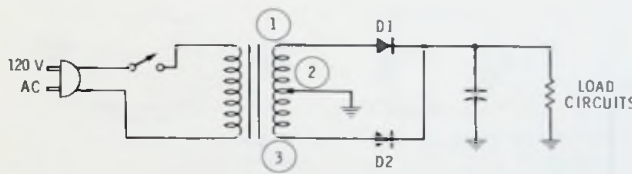

Fig. 3-23. Center-tapped transformer fed full-wave supply.
When a transformer winding is center tapped, half the output voltage will appear between the center tap and each end of the secondary winding. The total output voltage will appear between the two outside (end) leads. As shown in Fig. 3-23 if the top lead is positive the center tap will be more negative than the top lead. It will at the same time be more positive than the bottom lead which will be negative at this time. It is this fact which allows the transformer powered full-wave rectifier to operate with only two diodes.
A center-tapped transformer-fed, full-wave rectifier circuit is illustrated in Fig. 3-23. The center tap is grounded and *it becomes the negative lead of the power supply*. When transformer line 1 becomes positive, line 3 is negative. Line 2 is more negative than line 1 and more positive than line 3. Because of the direction of placement of D2 the negative line (3) will have no current coming from it. Instead, current will flow from line 2 through the load back through D1 to the positive line, operating the receiver. On the next half cycle line 3 is positive and line 1 is negative. Line 2 is now more negative than line 3 and current flows